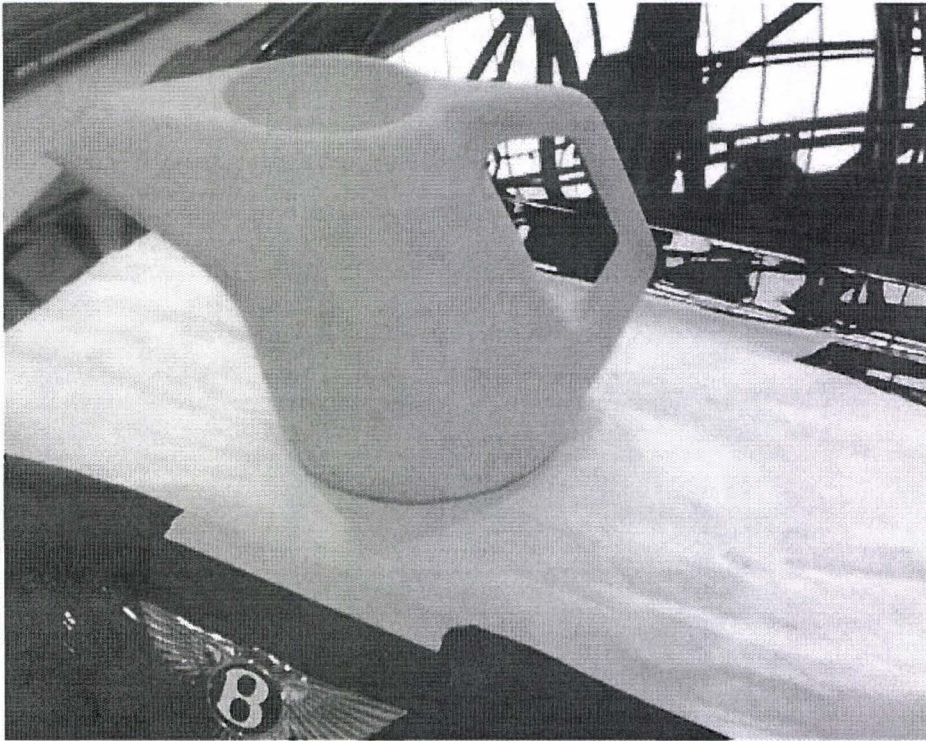

Figure 2
-Open the boot lid and then manually lower the boot lid until it rests on the first point of resistance usually the (seal/striker) rest a 2 Kg weight (2 litres of water as shown in Figure 2) on the boot lid above the latch having first protected the paintwork